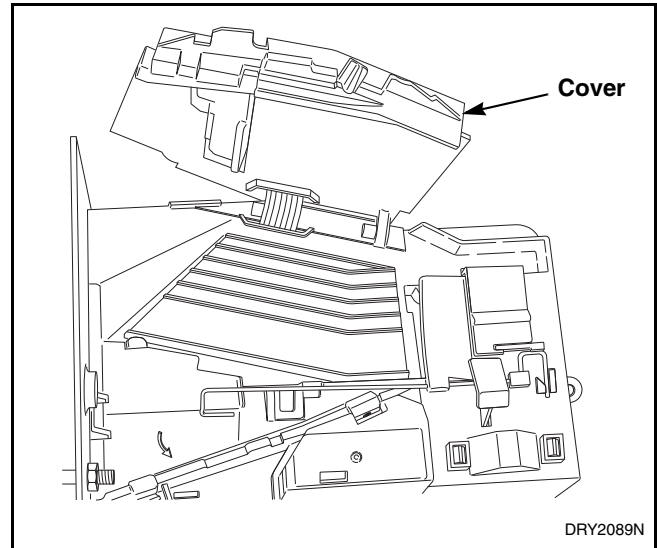

Figure 86
- Open cover for coin drop. Refer to Figure 86.